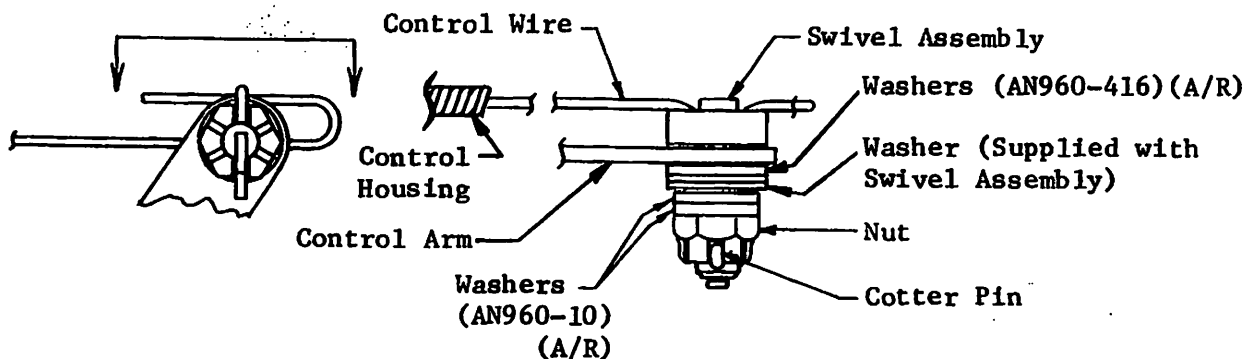

Figure 6-4. Carburetor Heat Control Installation
See Item 3 on Service Letter No. 74-4 for aircraft not equipped with swivel assembly illustrated in Figure 6-4.
- g. Bend carburetor heat control wire as shown on Figure 6-4, tighten clamp and install the cotter pin. Check swivel freedom in arm.